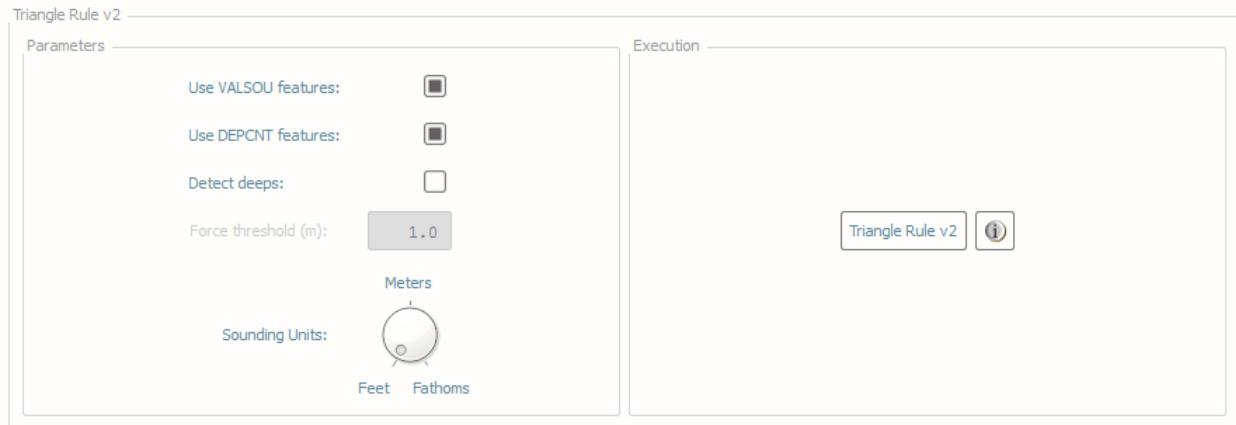

Fig. 2.66: Triangle rule's interface.
- In **Parameters** (Fig. 2.66, left side):
- In **Execution** (Fig. 2.66, right side), click **Triangle Rule v2**.